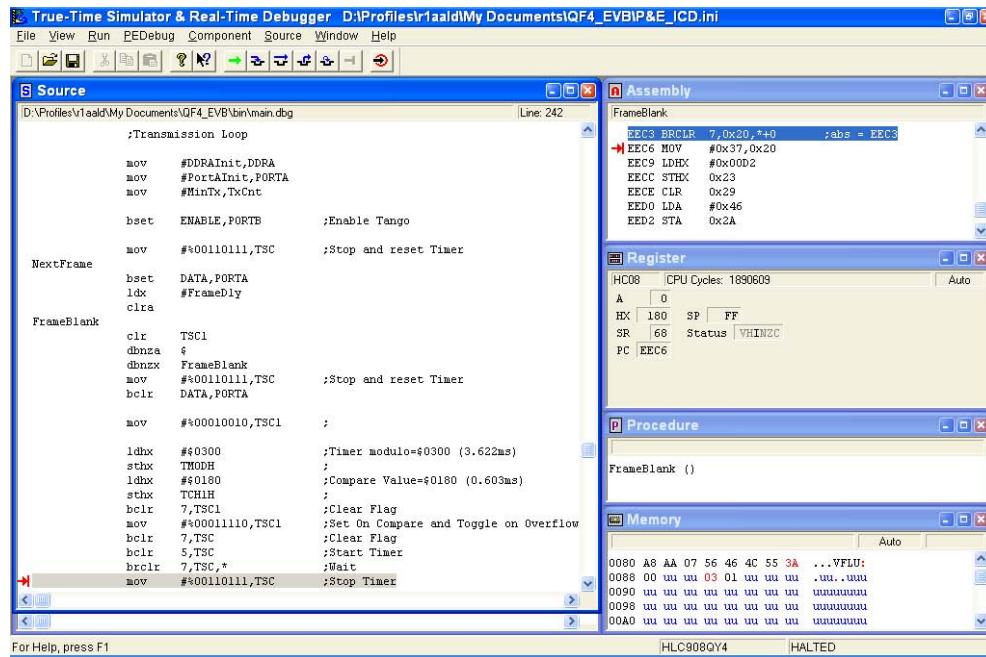

Figure 11. Transmission Loop
5. **Transmission Loop** — Transmissions are done using a software loop that uses the timer to control PTA1, the DATA signal. Because TCLK is provided by DATA_CLK from the UHF transmitter, this is used as a timebase for the data transmission. See Figure 11.